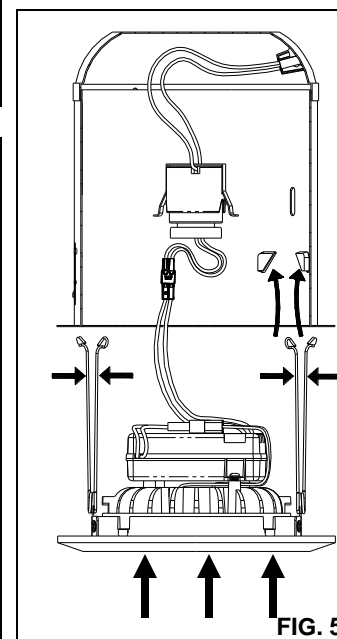

FIG. 5
4. Squeeze both TORSION SPRING arms together and insert into the TORSION SPRING SLOTS (or RECEIVER BRACKETS) of the CAN. Tuck all wires into the CAN and carefully push the RETROFIT TRIM into CAN. (NOTE: To provide enough room in shallow cans, carefully position SOCKET ADAPTER and SOCKET adjacent to the long side of the LED DRIVER prior to inserting the RETROFIT TRIM into the CAN.) (FIG. 5)
2. Squeeze both TORSION SPRING arms together and insert into the TORSION SPRING SLOTS (or RECEIVER BRACKETS) of the CAN. Tuck all wires into the CAN and carefully push the RETROFIT TRIM into CAN. (FIG. 5)